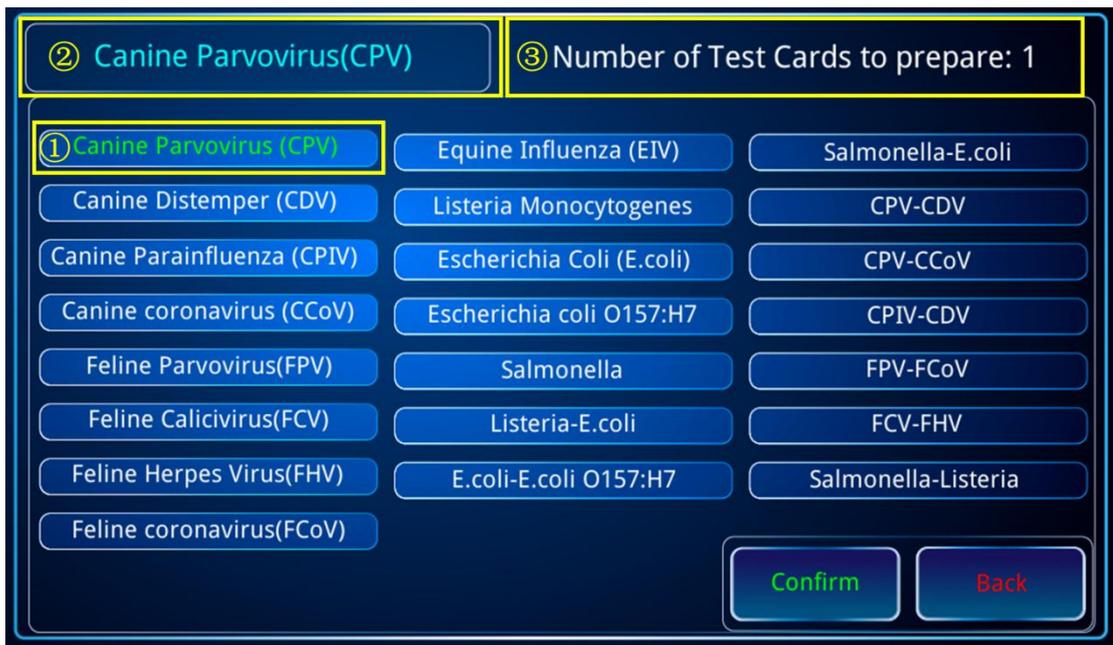

Figure 8 Detection Target Selection Page
The screen will automatically transition to the Detection Target Selection Page. On this page, select the Detection Target by clicking its name. For example, click "Canine Parvovirus (CPV)" (Figure 8 ①). The selected target will be highlighted in green (Figure 8 ①) and displayed in the upper left box (Figure 8 ②). The number of Test Cards required for the test will be shown in the upper right of the screen (Figure 8 ③).
Click "Confirm" to proceed to the next step, or click "Back" to return to the Main Page (Figure 8).